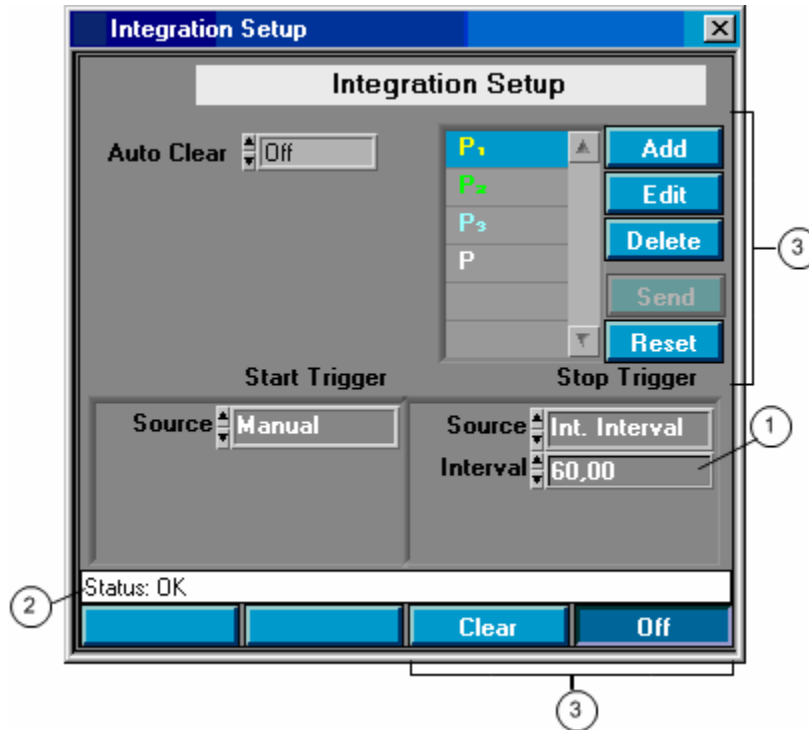

Figure 2-4. Stop Trigger Source-Int. Interval
⑧ Interval - stops the integration. It is visible only for source Int. Interval (see Figure 2-4).